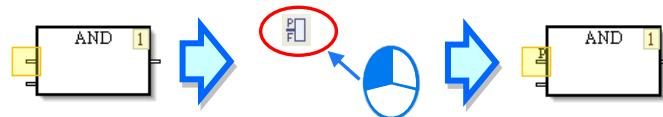

Figure 12-20 Rising edge/Falling edge
- (3) If users select a pin of a logic gate, a pin of a function block, or a pin of an instruction, and then click  or  on the PMSoft toolbar or on the context menu which will appear after the users right-click the pin, the pin will be rising-edge triggered. Please see figure 12-20. If the users select a pin which is rising edge-triggered, and then click , the pin will be falling edge-triggered. If the users select a pin which is falling edge-triggered, and then click , the pin will not be falling edge-triggered.